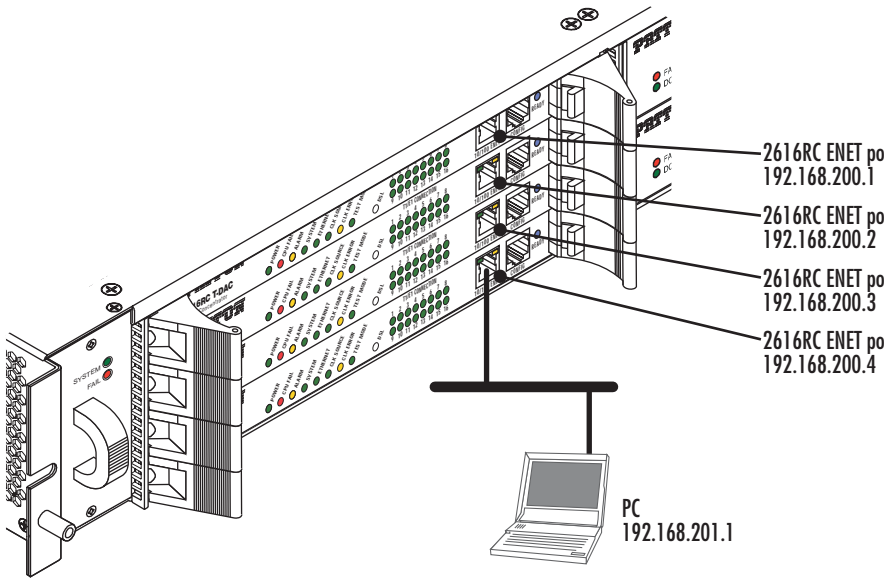

Figure 1. ForeFront Router bundle setup—Model 6525 Series
2. Connect the RJ45–RJ45 cable included with your ForeFront Router bundle between your PC and the front panel Ethernet port of the Model 2616RC (bottom slot) (see figure 1).